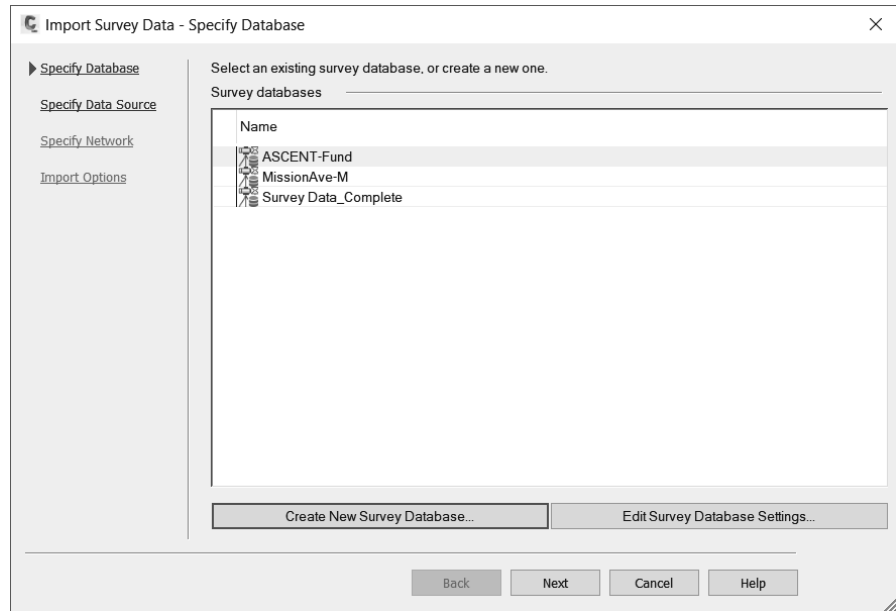

Figure 2–72
8. Under *Units* in the Survey Database Settings dialog box, for the *Coordinate Zone*, click the **Browse** icon. In the Select Coordinate Zone dialog box, select **NSRS 2007 California State Planes, Zone VI, US Foot** (as shown in Figure 2–73). Click **OK** twice and then click **Next**.